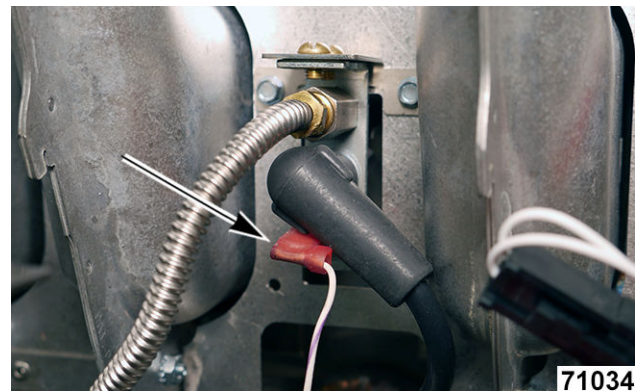

Fig. 74
4. Disconnect flame sense wire (Fig. 74) from flame sense terminal.